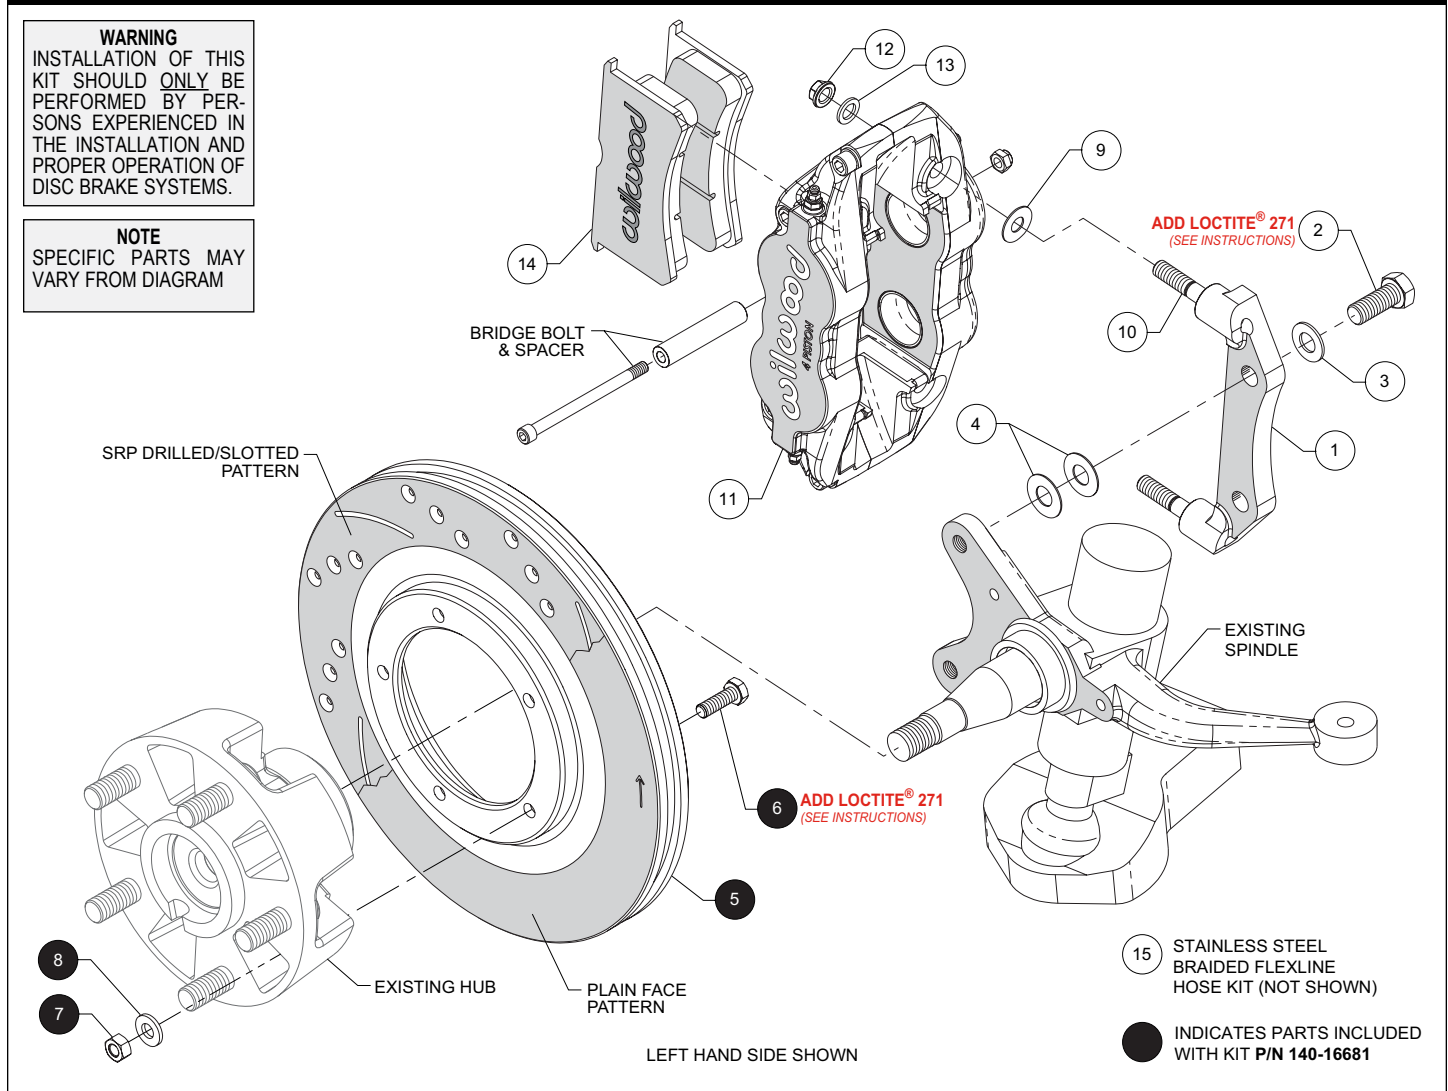

Figure 1. Typical Installation Configuration
NOTE: Numbers in parenthesis refer to the parts list and Figure 1 on the preceding pages.
•The caliper mount bracket (1) should initially be installed with clean, dry threads on the mounting bolts. Orient the bracket, as shown in Figure 1 and Photo 1, and install using bolts (2) and washers (3). Initially place two .033" thick shims (4) on each bolt between the bracket (1) and upright, Figure 1 and Photo 2 (see arrows). Temporarily tighten the mounting bolts. **NOTE:** The bracket must fit squarely against the mount bosses on the upright. Inspect for interference from casting irregularities, machining ridges, burrs, etc. Later, after the caliper alignment has been checked, the mount bolts will be secured using red *Loctite*® 271.
•For kit **140-16681**, orient the Wilwood rotor (5) and the existing hub as shown in Figure 1 and Photo 3. Attach rotor to hub assembly using bolts (6), nuts (7), and washers (8). Using an alternating sequence, apply red *Loctite*® 271 to the bolt threads, and torque nuts to 25 ft-lb. Slide the hub/rotor assembly onto the spindle. Adjust bearings per OEM specifications.
•Initially place one .035" thick shim (9) on each stud (10) between the caliper (11) and the bracket (1), as shown in Figure 1 and Photo 4. Mount the caliper (11) onto the bracket (1) using lock nuts (12) and washers (13), Figure 1. Temporarily tighten the lock nuts. View the rotor through the top opening of the caliper. The rotor should be centered in the caliper, Photo 5. If not, adjust by adding or subtracting shims (4) between the bracket and the upright. Always use the same amount of shims on each of the two mounting bolts. Once the caliper alignment is correct, remove the bracket mounting bolts (2) one at a time, apply red *Loctite*® 271 to the threads, and torque to 60 ft-lbs.